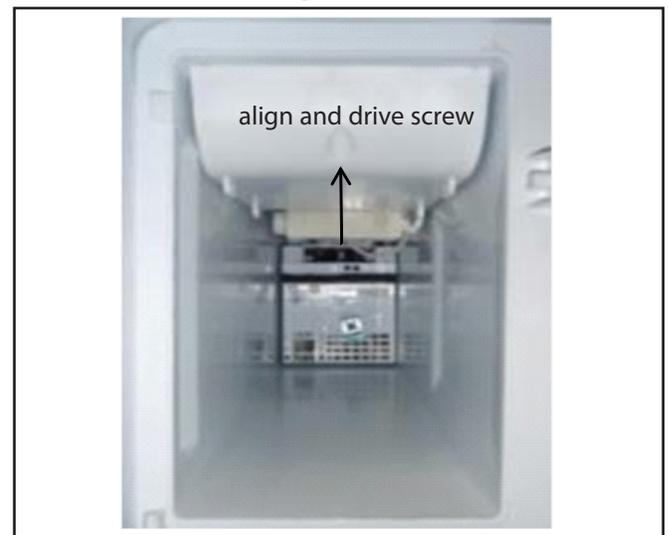

Figure 6-74
7. Push the Cover into position and drive in the screw. The extended lip on the front of the cover is to be inserted into the slot on the top of the ice maker housing. Figure 6-74.